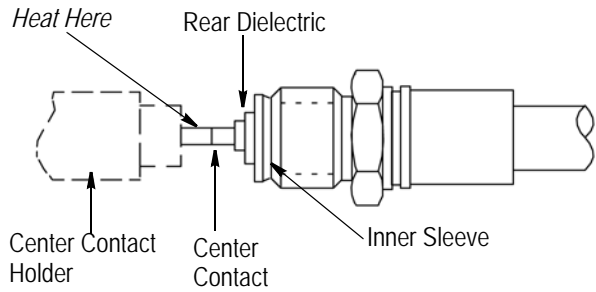

Figure 4
3.3. Soldering of Center Contact to Cable Inner Conductor (Figure 4)